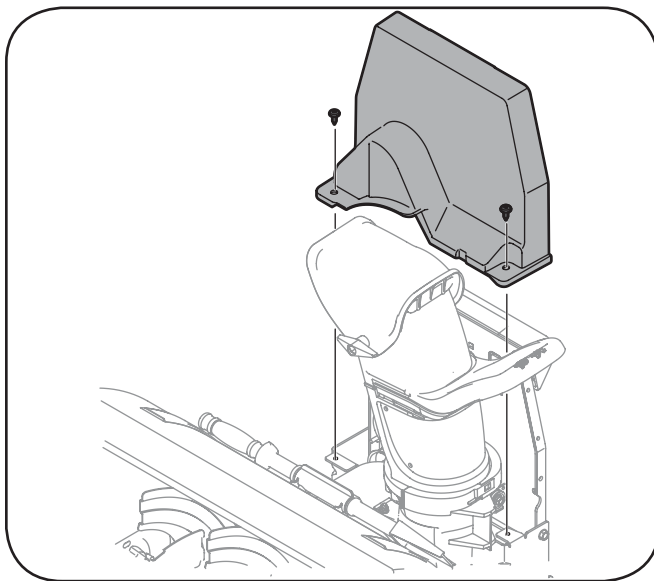

Figure 6-1
1. Remove the plastic belt cover on the snow thrower attachment by removing the two self-tapping screws that secure it. See Figure 6-1.
2. Remove the plastic belt cover on the snow thrower attachment by removing the two self-tapping screws that secure it. Refer back to Figure 6-1.